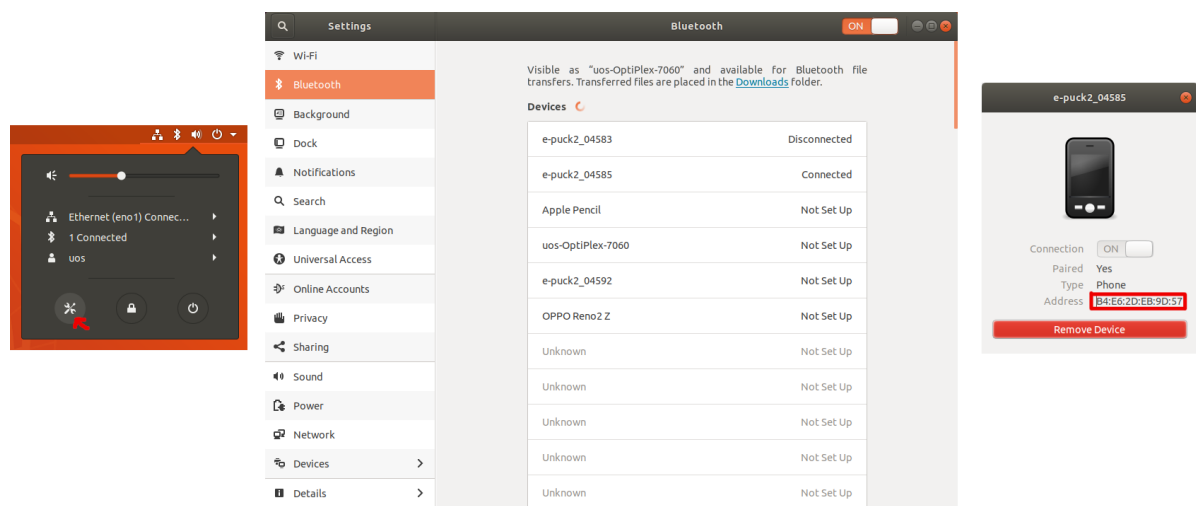

Figure 1: Ubuntu Bluetooth settings.
- Connect to the e-puck2 through the Ubuntu settings panel, as shown Figure 1.